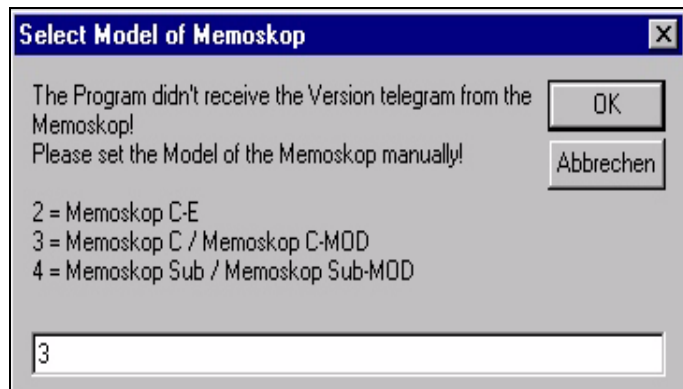

Fig. 3
- The program window "Memoskop Service Program" (Fig. 3) is then displayed.